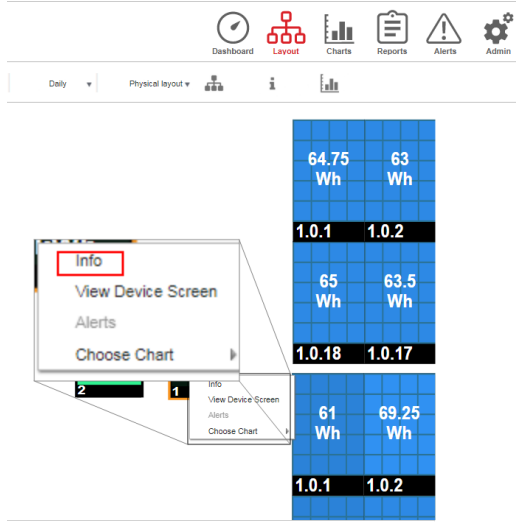
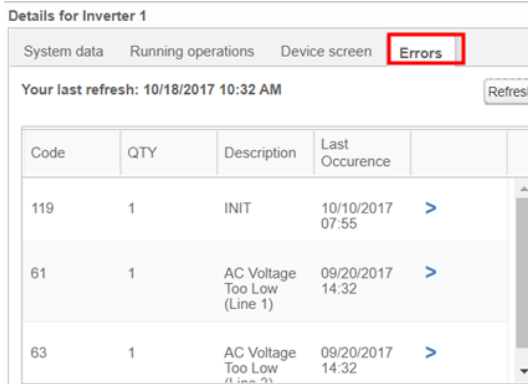

Figure 23: Inverter menu
Figure 24: Inverter details - Error list
- Right-click the inverter and select **Info** from the menu (Figure 23). The inverter details window is displayed (Figure 24).